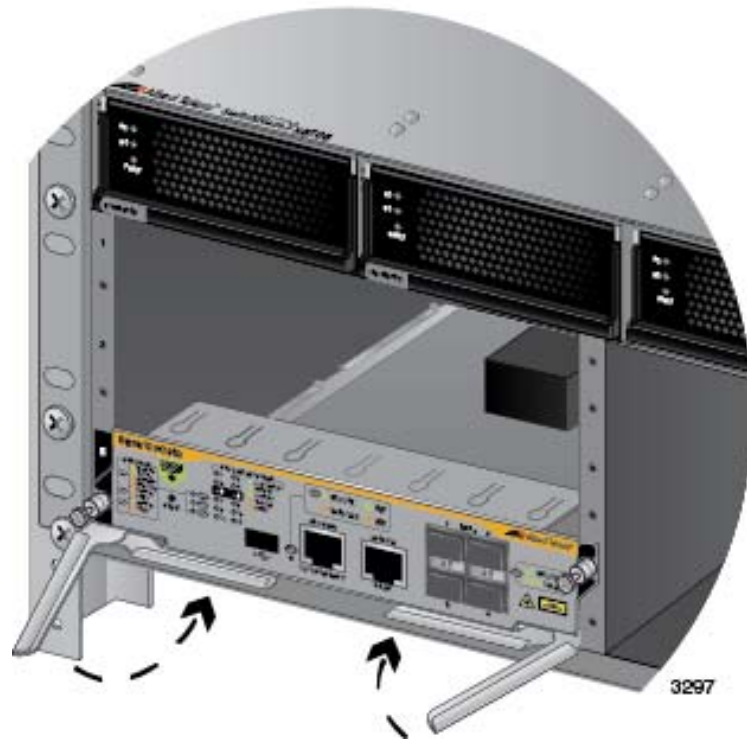

Figure 75. Closing the Locking Levers on the AT-SBx81CFC960 Controller Fabric Card
8. When you feel the card make contact with the connector on the backplane of the chassis, carefully close the two locking levers on the front panel of the controller card to secure it in the chassis, as shown in Figure 75 on page 146.